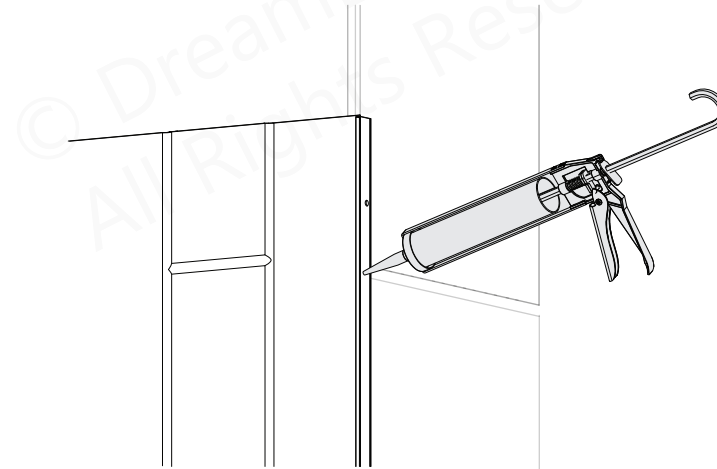

**Fig 15**
**15.** Measure the location of the shower fixtures from each of the installed **Q-Wall Back Panels**. Transfer these measurements to the corresponding **Q-Wall Side Panel** and drill the cutouts using a hole saw. **Fig 15**